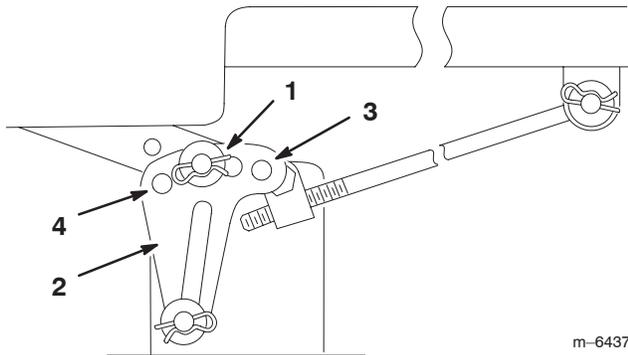

Figure 38
- 6. Remove the hairpin cotter and washer from the leveling bracket (Fig. 38).
- 7. To level the blade(s), reposition the leveling bracket(s) in a different hole and install the washer and hairpin cotter. (Fig. 38 and 39). A front hole lowers the blade height and a rear hole raises its height. Adjust both sides as required.